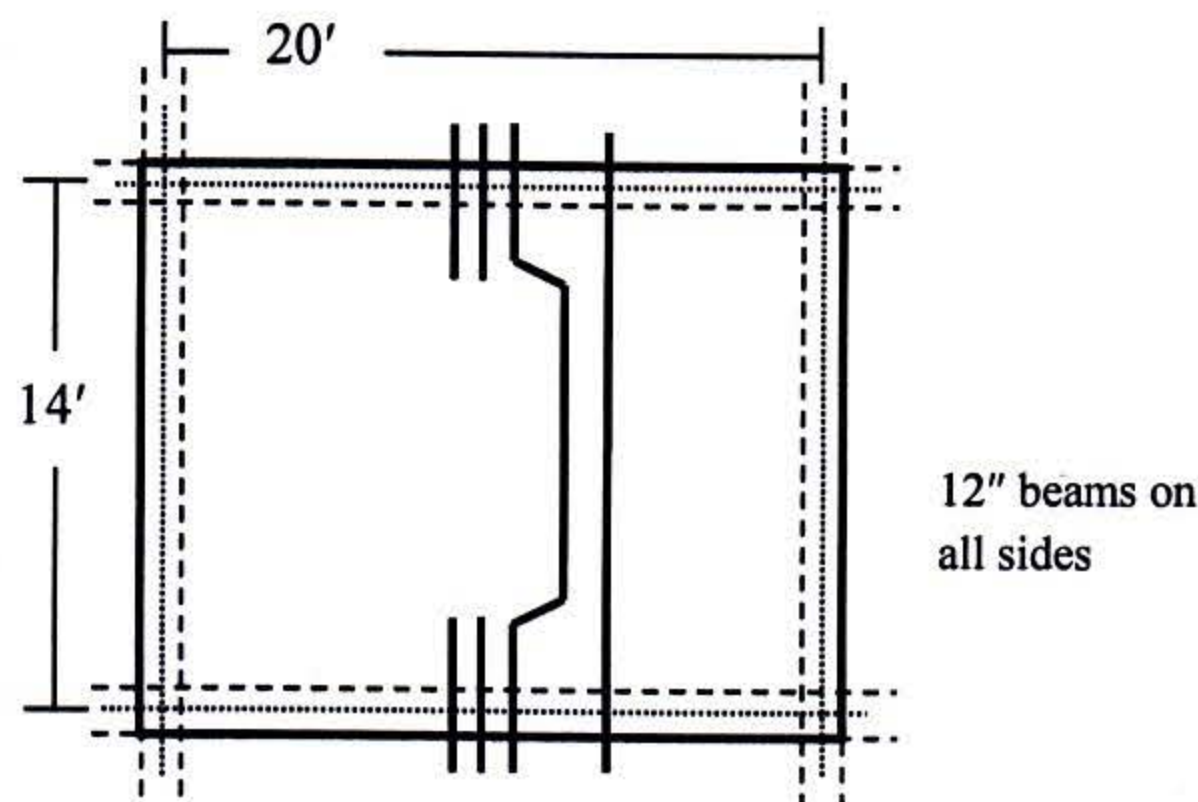

Figure: 1
1. A beam-supported interior slab panel is carrying loads from floor finish 30 psf and random wall 50 psf. Calculated reinforcement (in USD) in short span was found to be #3 @8.25" c/c (bottom), alt ckd + 2#3 extra top as shown in **Figure 1**. Thickness of the slab was found to be 4.5". Calculate the live load that can be carried by the slab panel. Use Moment Co-efficient method [Given: $f'_c = 3$ ksi, $f_y = 50$ ksi]. (20)